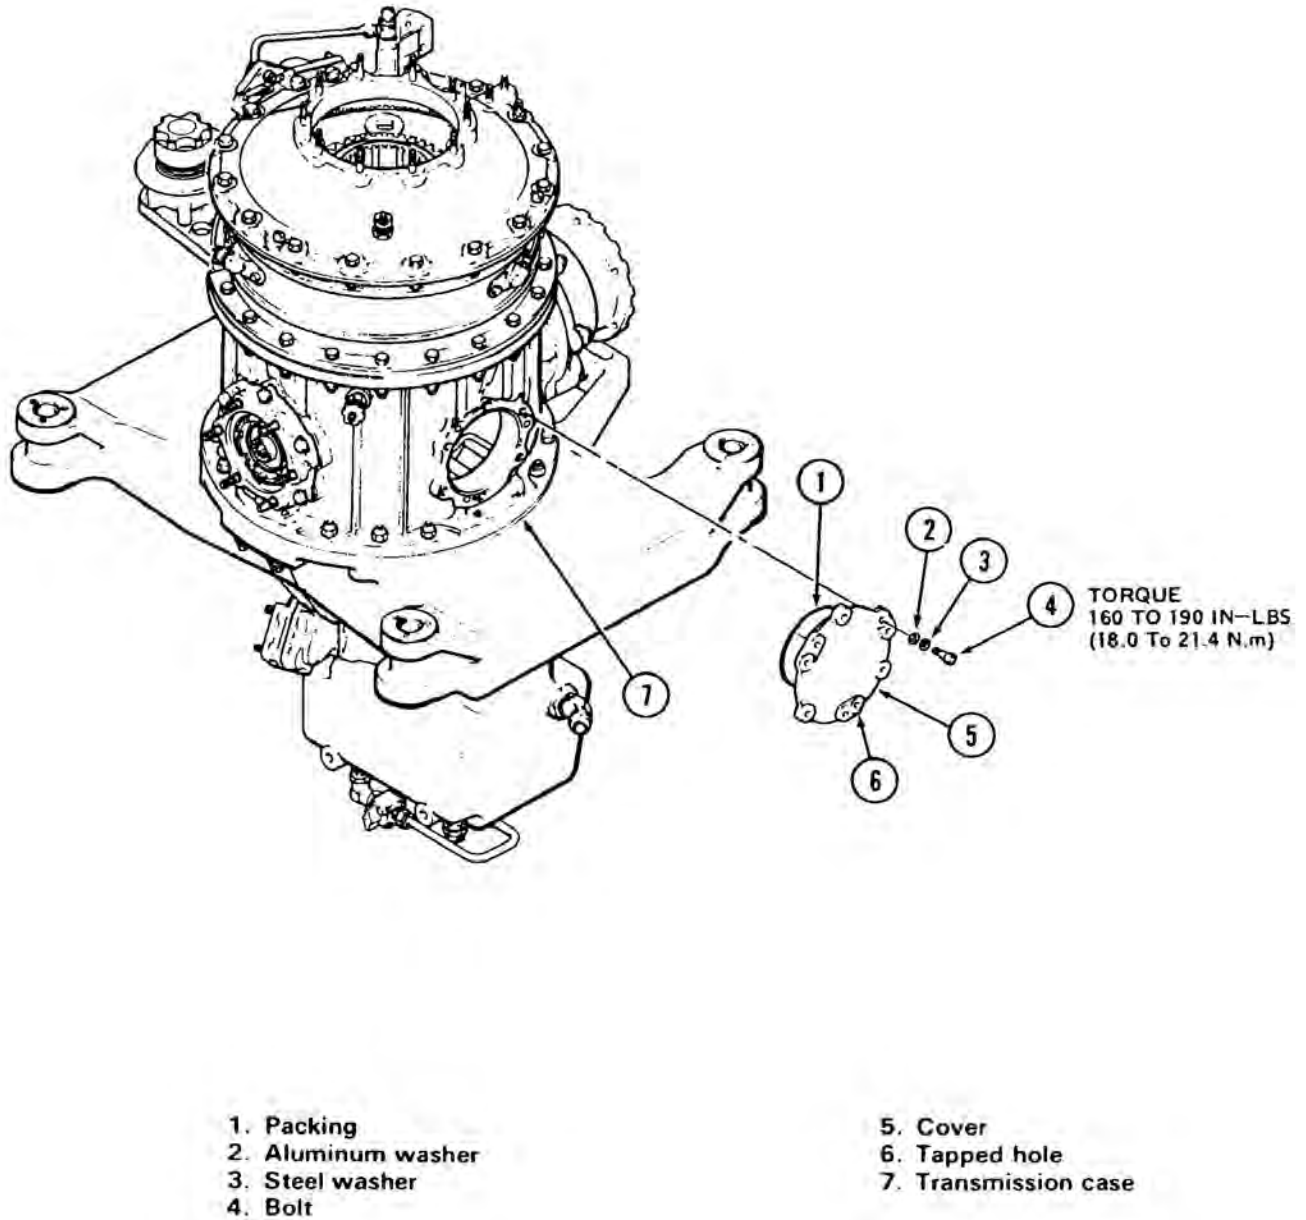

Figure 63-52. Quill Port Covers
63.8.1.2 Remove bolts (4, Figure 63-52).
63.8.2.1 Lubricate new packing (1, Figure 63-52) with transmission oil (Chapter 12).